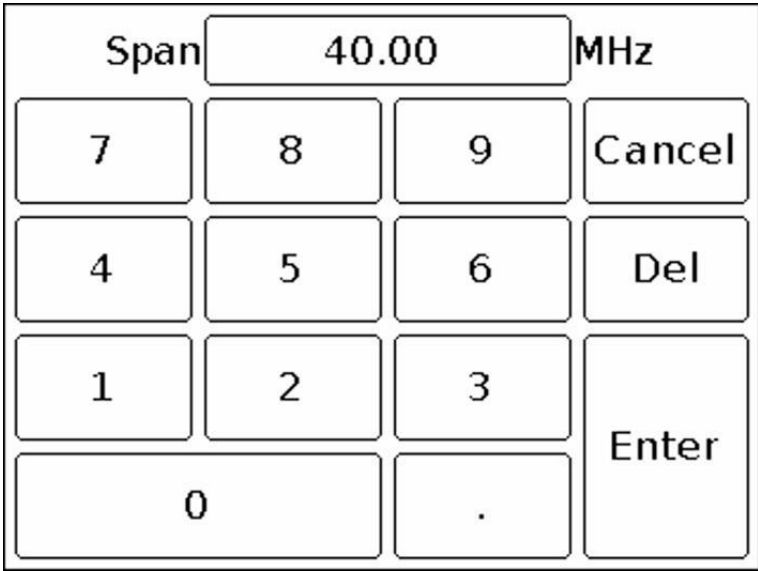

Figure 8 – Entering numerical values
7.3.3. Each of the parameters is set by entering a numerical value in the opened submenu, as in Figure 8. Enter the numeric value of the frequencies and press Enter. To delete erroneous or previously entered values, press Del. To refuse to enter a value, press Cancel. In our example, in Figure 8, setting the frequency range of the survey is 40 MHz wide.